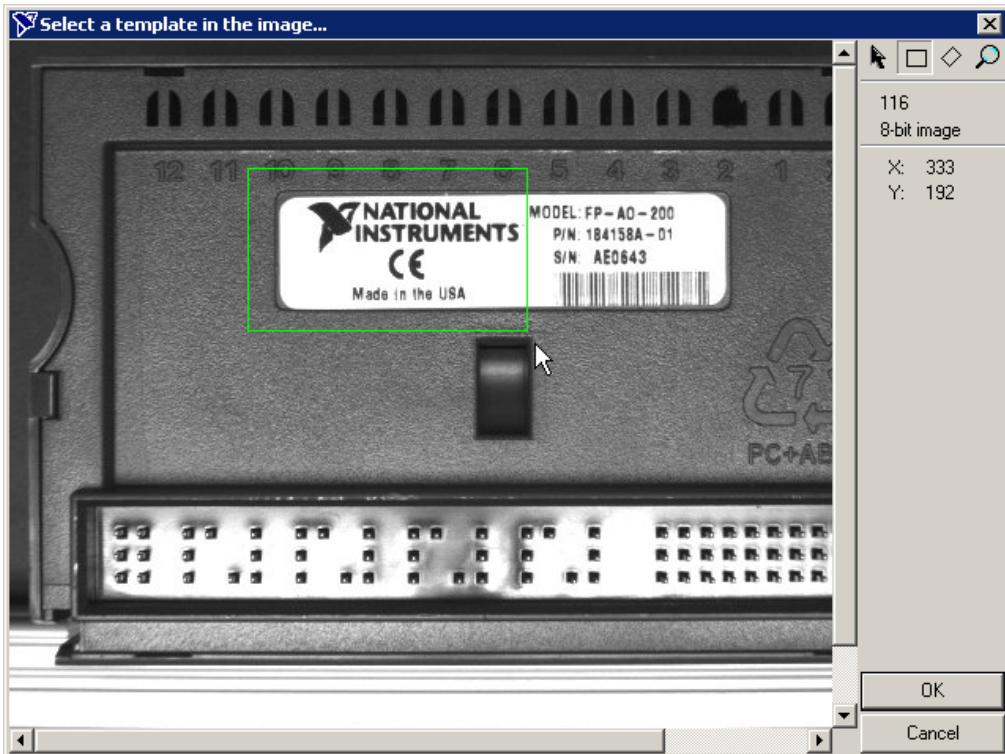

Figure 1-4. Creating a Template Pattern
3. Draw a region of interest (*ROI*) around the area of the image containing the label, as shown in Figure 1-4. This region becomes the *pattern matching template*.